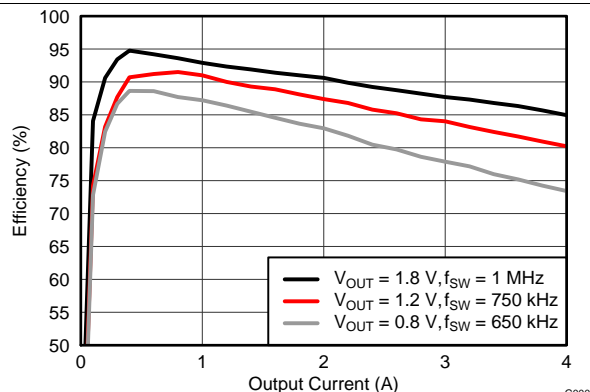
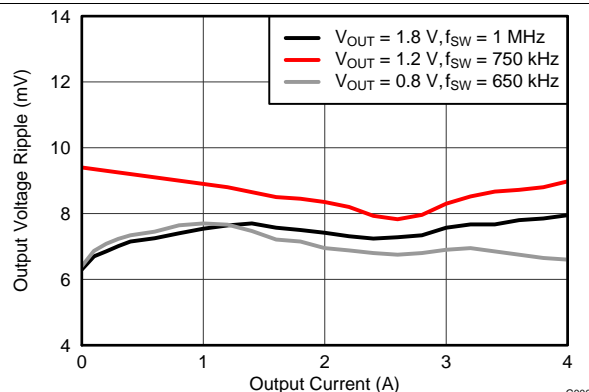
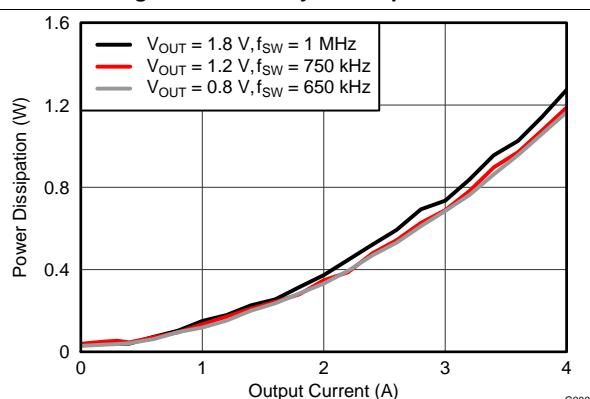

Figure 6. Efficiency vs. Output Current
Figure 7. Voltage Ripple vs. Output Current
Figure 8. Power Dissipation vs. Output Current
(10) The electrical characteristic data has been developed from actual products tested at 25°C. This data is considered typical for the converter. Applies to Figure 6, Figure 7, and Figure 8.